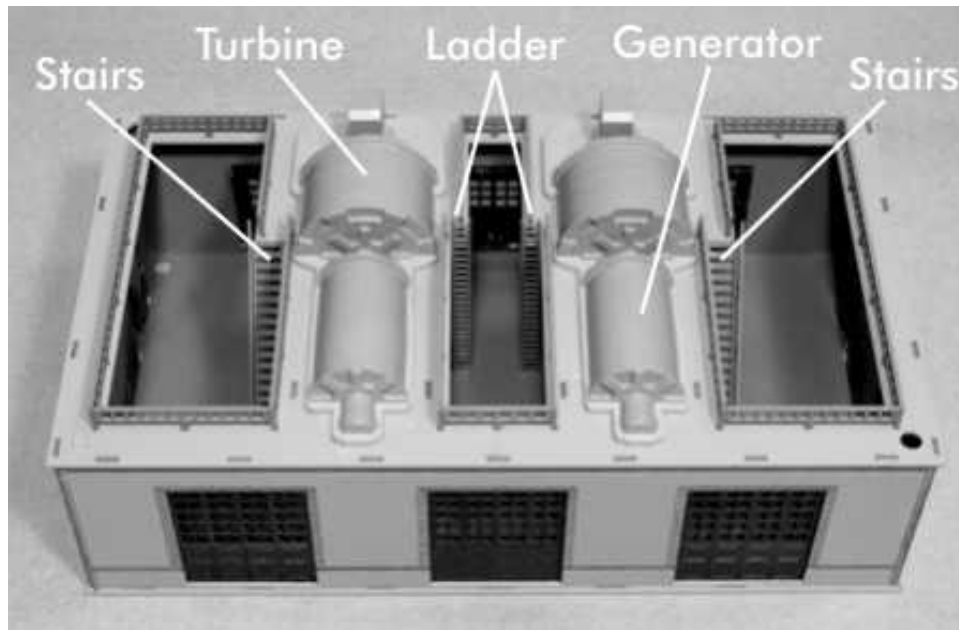

Figure 10
Prime and paint the turbines. Once dry, glue onto part (B) with white glue. Use the engraved lines as your guide, as it will be a snug fit when attaching Unit 2 to Unit 1. See Figure 10.